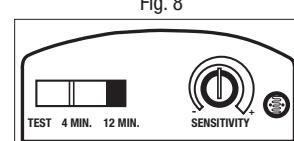

Fig. 8
1. Move slide switch on bottom of the sensor to "TEST". Set sensitivity knob to medium (halfway) (Fig. 8).